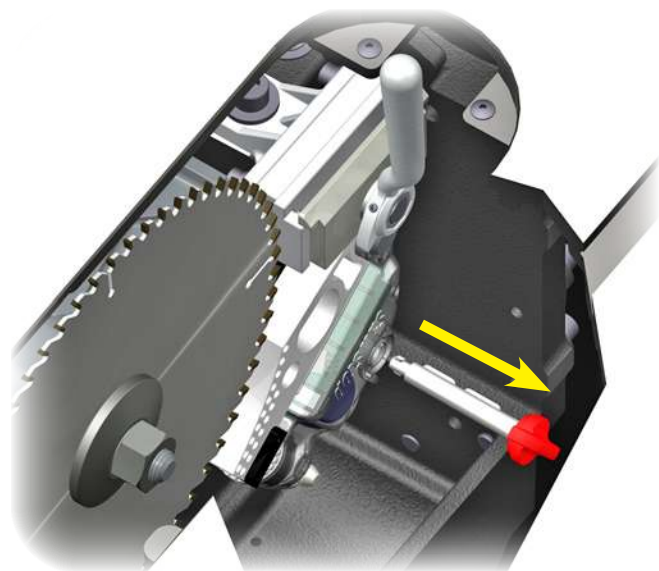

Fig. 42
To remove the cartridge, first remove the cartridge key by turning it 90° clockwise and then pulling it away from the cartridge (see Fig. 42). Set the cartridge key aside for use with the new cartridge.
Next, align the cartridge key with the hole in the cartridge housing. See Fig. 42. The key shaft has a ridge that must be aligned with a recess in the key hole in the housing. As a result, the key can only be inserted into the hole when the red handle is pointing toward the brake pawl. Press the cartridge key fully into the cartridge and rotate the key 90° counter-clockwise to lock the cartridge in place. The key will not rotate unless it is fully seated against the side of the cartridge housing and the cartridge housing is pressed against the cartridge mounting bracket.